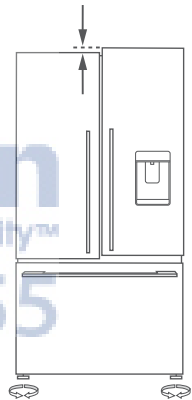

Fig.12 Uneven door alignment
- If right hand door is too low, then adjust the right hand foot in the same way (refer to figures 12 and 13).